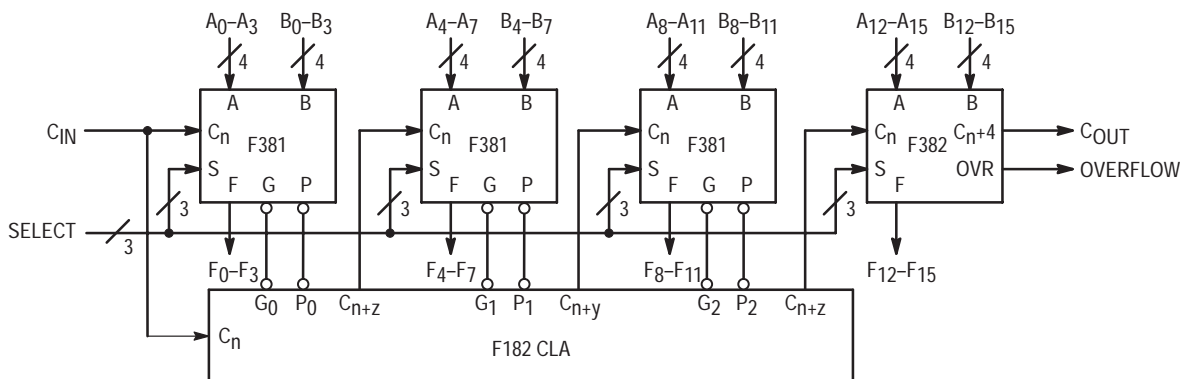

Figure 1. 16-Bit Lookahead Carry ALU Expansion
The Carry Generate (G) and Carry Propagate (P) outputs supply input signals to the F182 carry lookahead generator for expansion to longer word length, as shown in Figure 1. Note that an F382 ALU is used for the most significant package. Typical delays for Figure 1 are given in Figure 2.